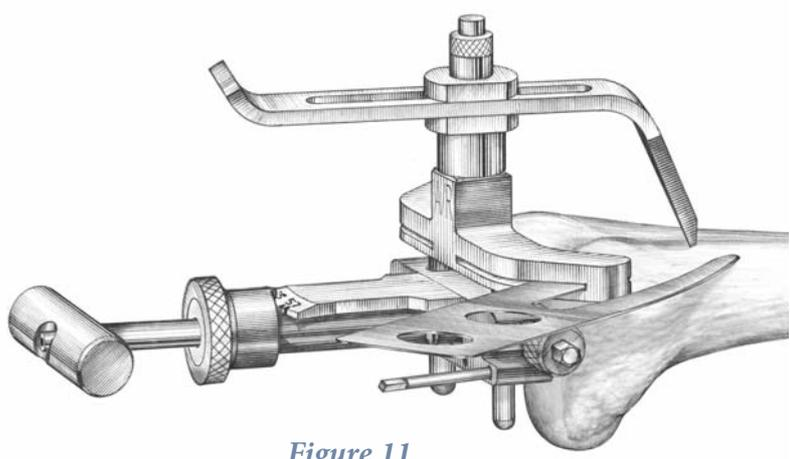

Figure 11
- ▶ Prior to resection, check the saw exit level around the superomedial and superolateral sides of the anterior cortex with a sawblade or a Stryker Bladerunner (Figure 11).